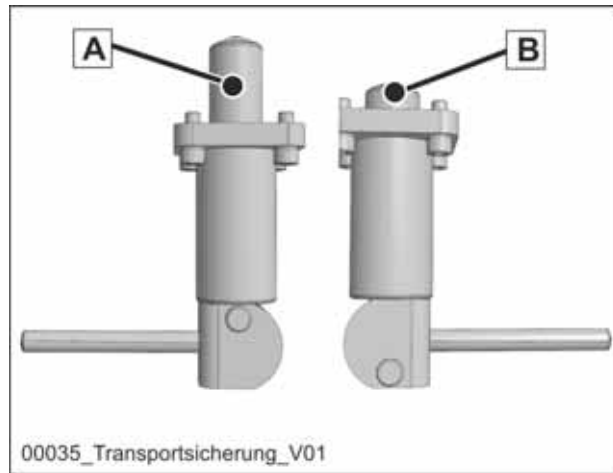

Fig. 134 Transport safety devices
- Reinsert the transport safety devices (**Fig. 134**), if provided for in the design.
Caption for transport safety devices (**Fig. 134**)